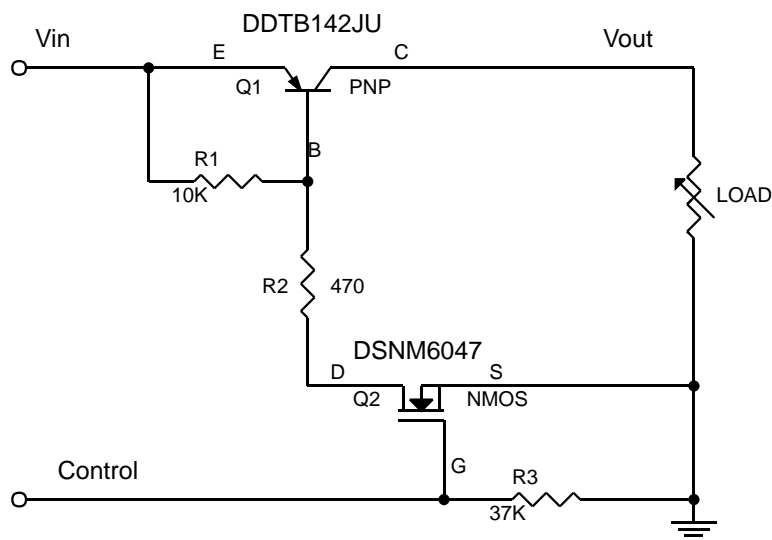
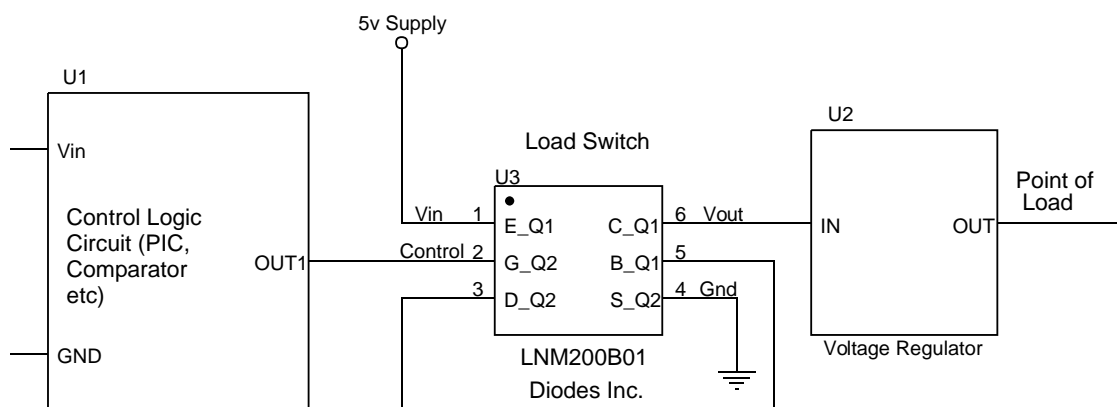

Fig. 19 Circuit Diagram
Fig. 20
- PNP Transistor (DDTB142JU) and N-MOSFET (DSNM6047) with gate pull-down resistor integrated as one in LMN200B01 can be used as a discrete entity for general purpose applications or as an integrated circuit to function as a Load Switch. When it is used as the latter as shown in Fig 19, various input voltage sources can be used as long as it does not exceed the maximum ratings of the device. These devices are designed to deliver continuous output load current up to a maximum of 200 mA. The MOSFET Switch draws no current, hence loading of control circuit is prevented. Care must be taken for higher levels of dissipation while designing for higher load conditions. These devices provide high power and also consume less space. The product mainly helps in optimizing power usage, thereby conserving battery life in a controlled load system like portable battery powered applications. (Please see Fig. 20 for one example of a typical application circuit used in conjunction with voltage regulator as a part of a power management system)